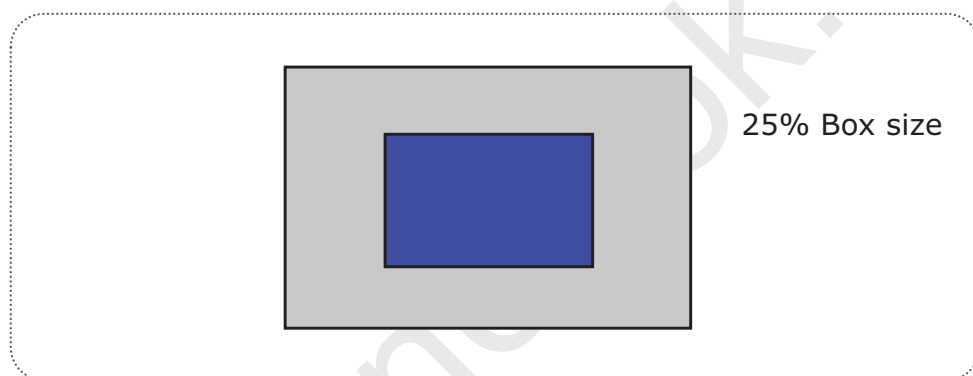

FIG. 5 Test Pattern
6. Color shift is the angle at which the color difference is lower than 0.04. For more information see FIG 5. (By EZ Contrast)